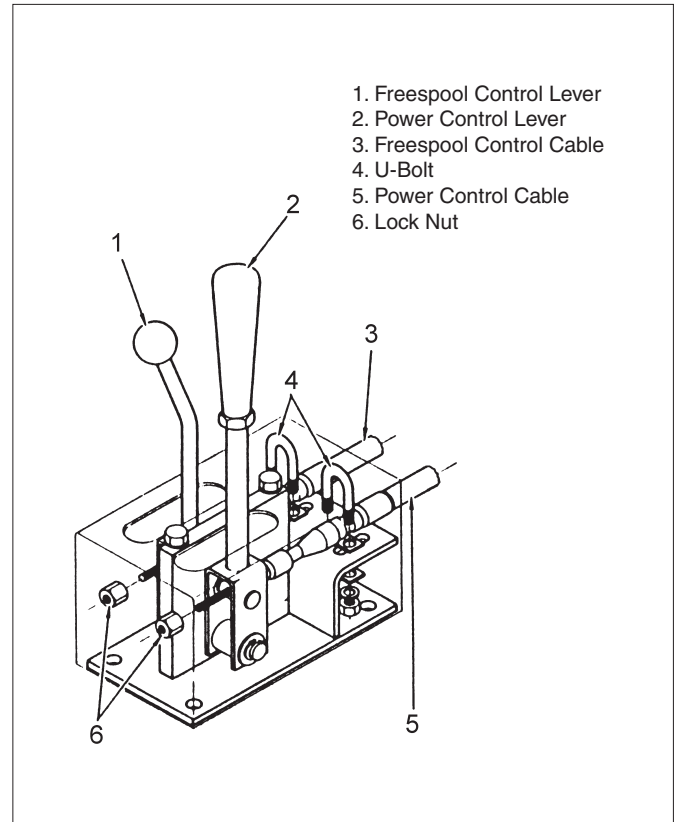

Figure 26 - Control Cable Adjustments
A. See Figure 26. Check that the positions of the **FREESPOOL** lever (Item 1) are the same as the position indicators on the control housing. Loosen the U-Bolt (Item 4) that holds the **FREESPOOL** control cable (Item 3) in the housing to adjust the control lever. The linkage and cable must be adjusted so that the **FREESPOOL** shifter mechanism will slide the drum pinion gear to both positions. Both positions have a detent. Install the cover when the adjustments are complete.